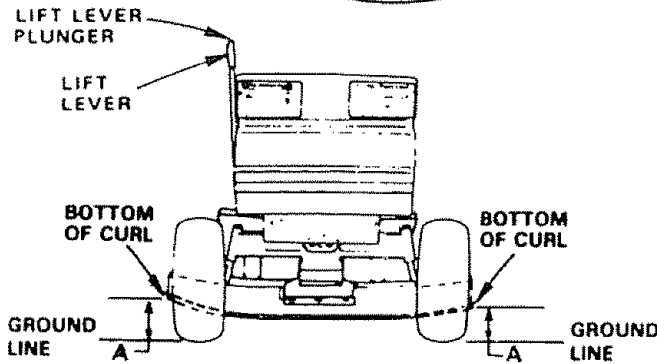

FIGURE 32
- Measure height from bottom of curl to ground line at front of mower. Distance "A" should be the same on both sides (Fig. 32).